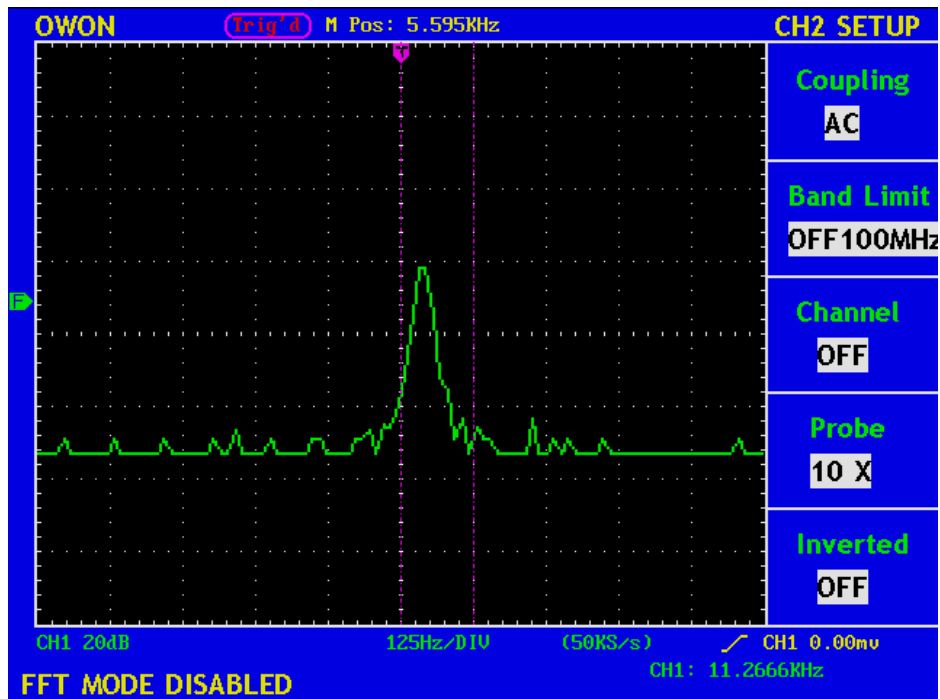
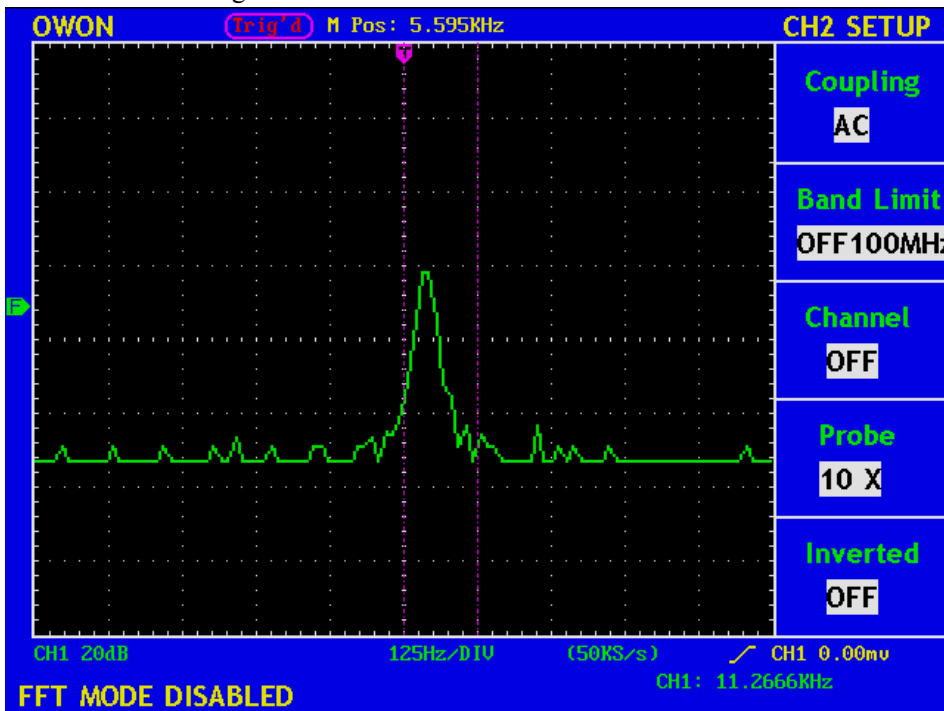

Fig. 22 Channel CH1 is diable under FFT mode
Fig. 23 Channel CH2 is diable under FFT mode
The wave forms are shown as Fig.21 and Fig.22.
- (1). Press the **CH1 MENU** button and call out the **CH1 SETUP** menu.
- (2). Press the **F3** menu selection button and select the Channel as **OFF**, with Channel 1 switched off.
- (3). Press **F3** menu selection button again, select the channel as **ON**, with Channel 1 is switched on.
**Note:**In FFT mode, both CH1 and CH2 are not allowed to be ON when F3 is pressed. See Fig. 22 and Fig.23.
The Fig.23 illustrates the setting and the vertical scale factor when the probe of the attenuation coefficient of 10:1 is used.